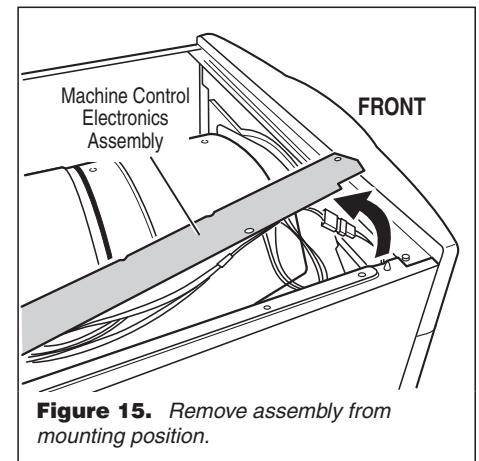

Figure 15. Remove assembly from mounting position.
1. Perform steps 1 and 2 above, then remove the three screws that hold the machine control bracket in place and remove assembly. See figure 15.